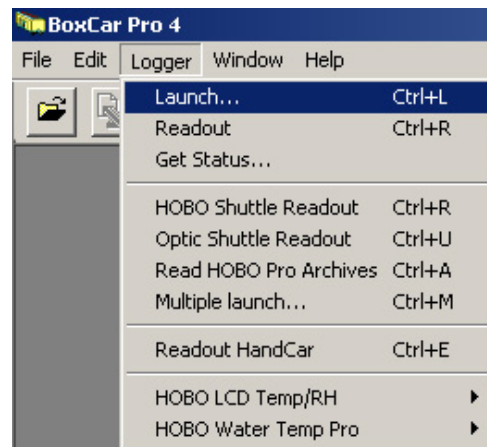

Figure 2: Launch menu
3. **Open the launch screen.** Click the launch button  or select *Launch* from the *Logger* menu as shown in *figure 2*.